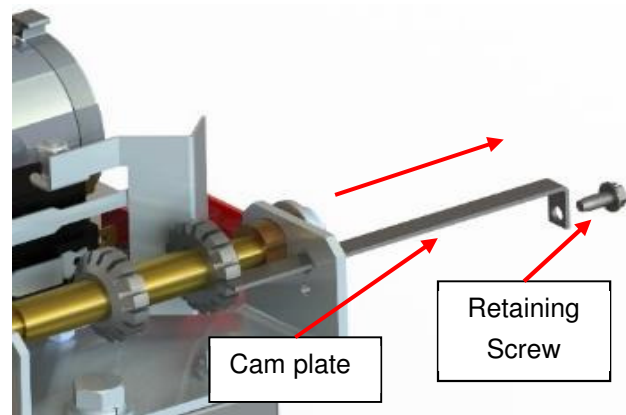

Figure 110
- 4) To reduce the amount of travel in the upward direction, turn the up cam wheel counter clockwise viewed from the cam plate as shown. (Figure 110) When turning counter-clockwise, for each cam wheel's lot travel (approx. 4°), the upper cover limit will be reduced by approximately 5/32 in. (4 mm).
- 5) Once the height is set to the desired position, return the cam plate to its original position and ensure that it is properly inserted in the slot of each cam. **Never operate the system without the cam plate and retaining screw.** (Figure 110)